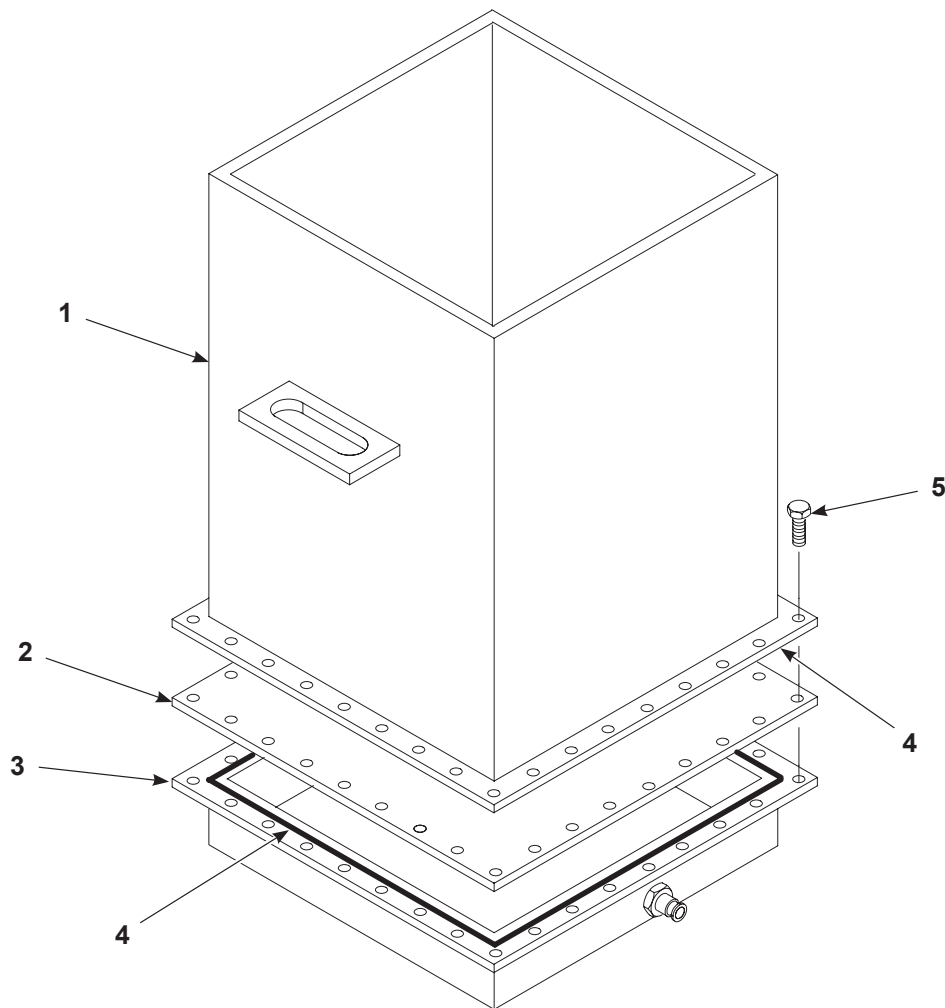

Figure 8-13 50-lb Feed Hooper Fluidizing Plate Replacement
2. See Figure 8-13. Remove the screws (5) securing the body (1) to the plenum (3). Lift the body off the plenum.
3. Remove and discard the old fluidizing plate (2).
5. Check the O-ring gaskets (4) on the body and plenum flanges and make sure they are securely installed in the flange grooves.